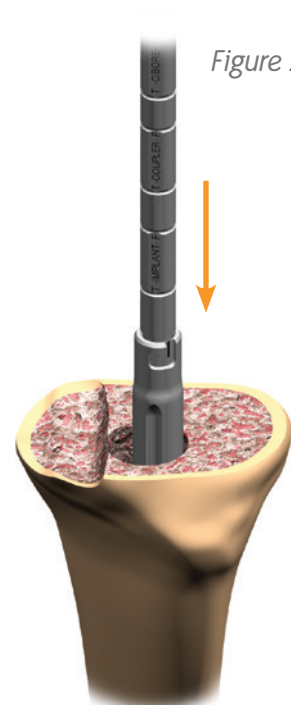

Figure 21
10. Insert the Trial Stem Guide Assembly into the tibial canal (*Figure 21*).